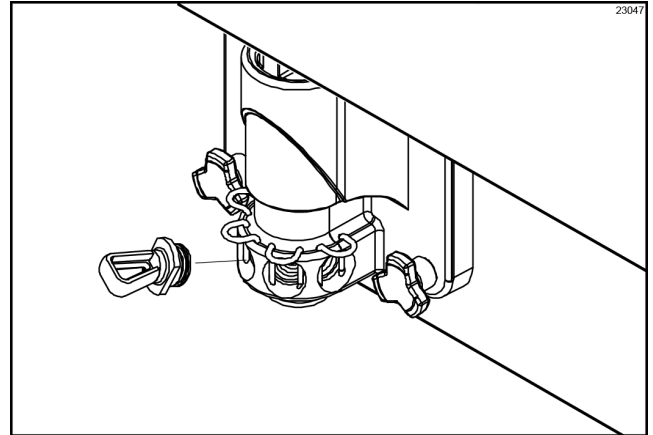

Figure-157
2. Install syrup hole plugs in the syrup ports in the freezer door. (See Figure-157.)